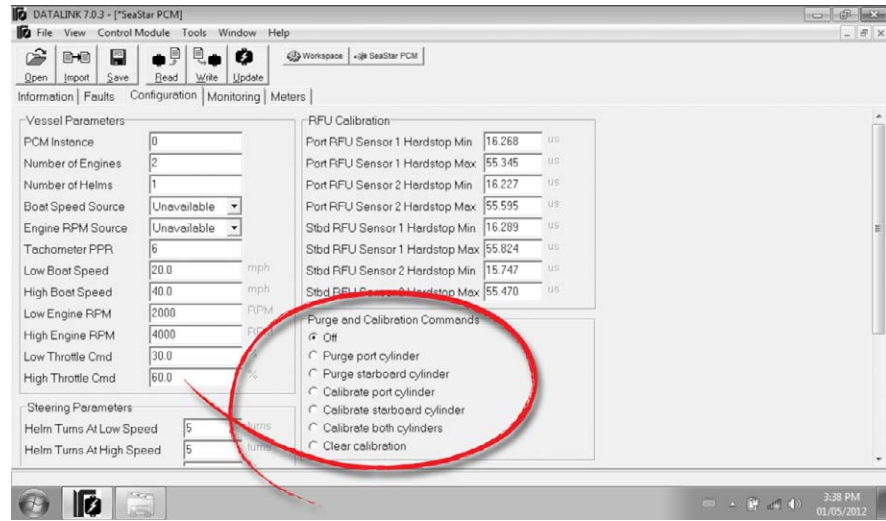

Figure C-6.
Open the PCM interface and click on the Configuration tab. Find the Purge and Calibration Commands, as shown in figure C-6.
2. Open the PCM interface and click on the Configuration tab. Find the Purge and Calibration Commands, as shown in figure C-6.